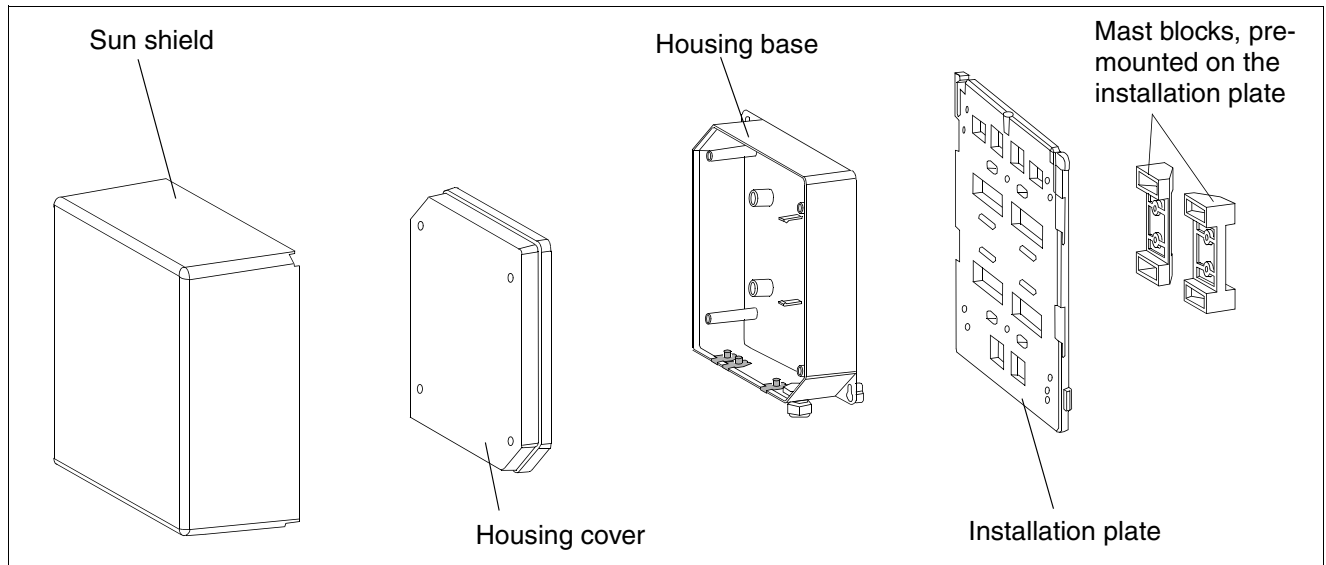

Figure 16
- Figure 16 shows the components of the outdoor housing.